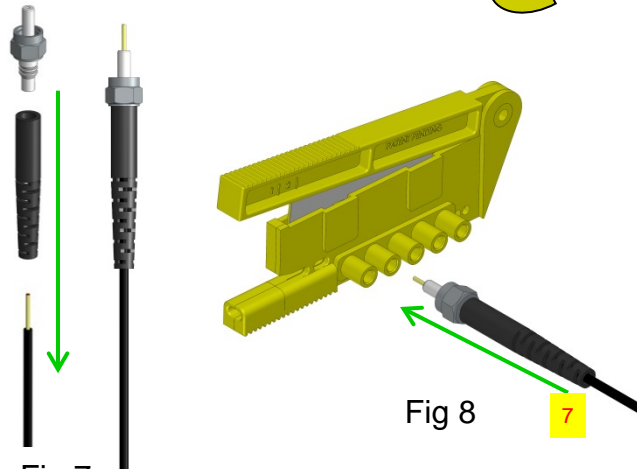

Fig 7
8. Slide the fiber into the SMA connector housing so it bottoms out in the Connector (Figure 7).